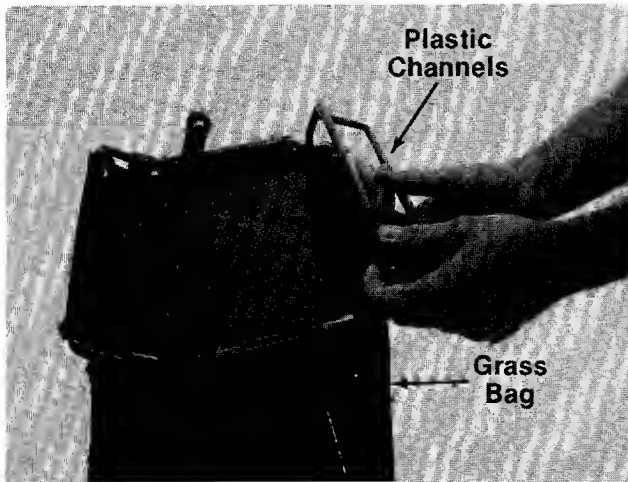

FIGURE 8.
3. Secure bag to frame by slipping plastic channels on bag over frame. See figure 8.